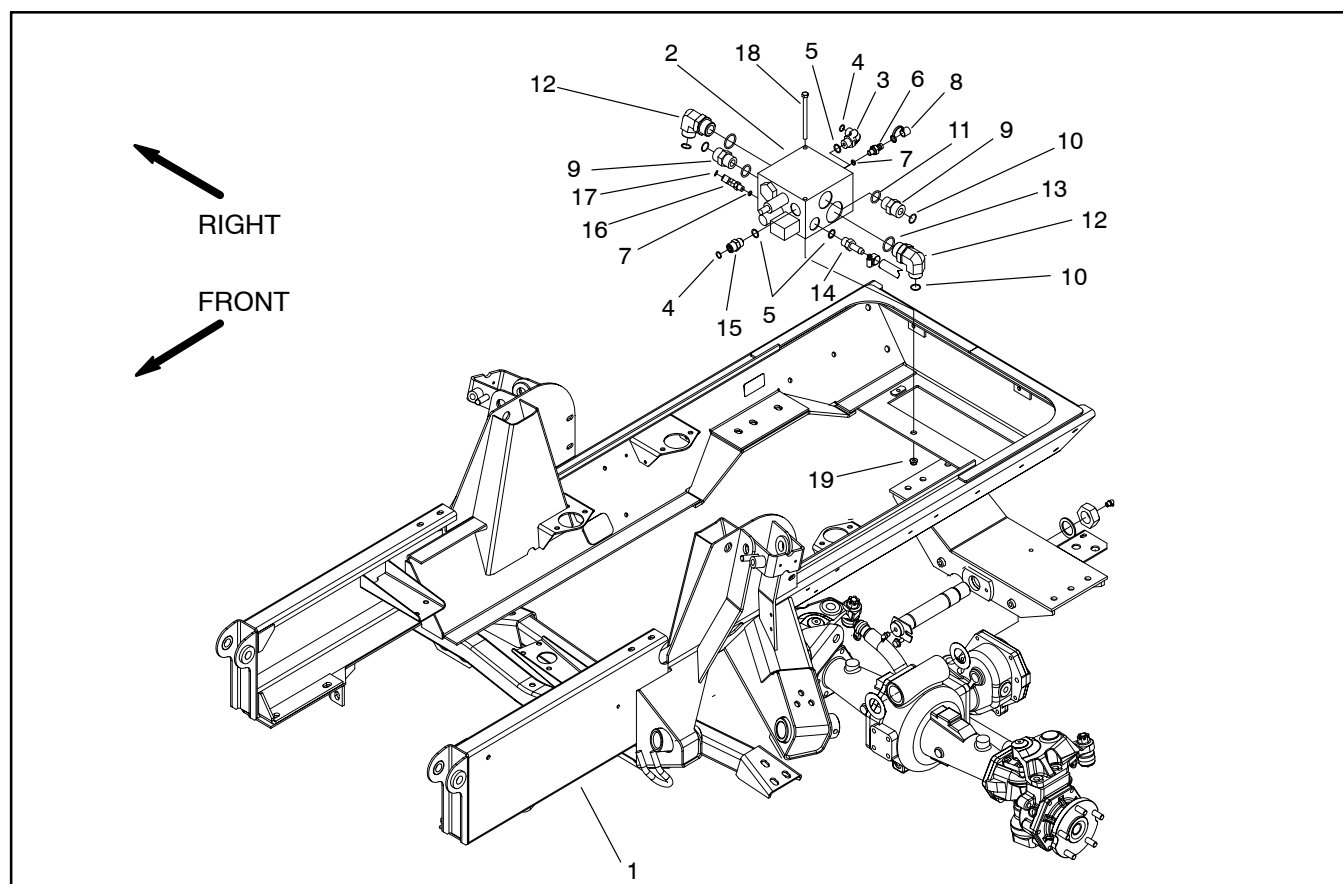

Figure 48
Removal (Fig. 48)
4. Remove hydraulic manifold from the frame using Figure 48 as guide.
Installation (Fig. 48)
1. Install hydraulic manifold to the frame using Figure 48 as guide.